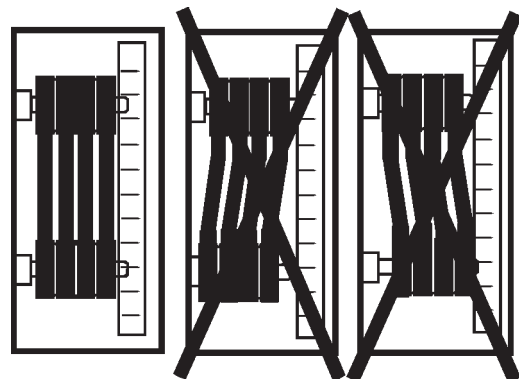

Figure 17. V-Belt Parallelism
2. Check uniform parallelism (Figure 17) of V-belts and pulley (sheaves). Use a straight edge or machinist's square against both pulleys and adjust both pulleys until equally aligned.